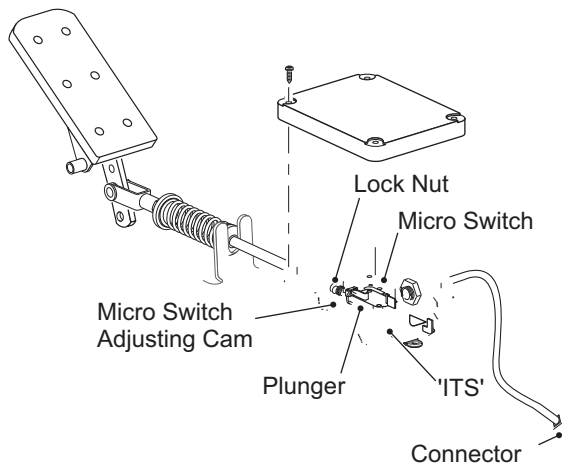

Fig. 3 ITS and Plunger
3. Remove the metal cover and remove the four screws securing the plastic cover to the pedal box (Ref Fig. 3).